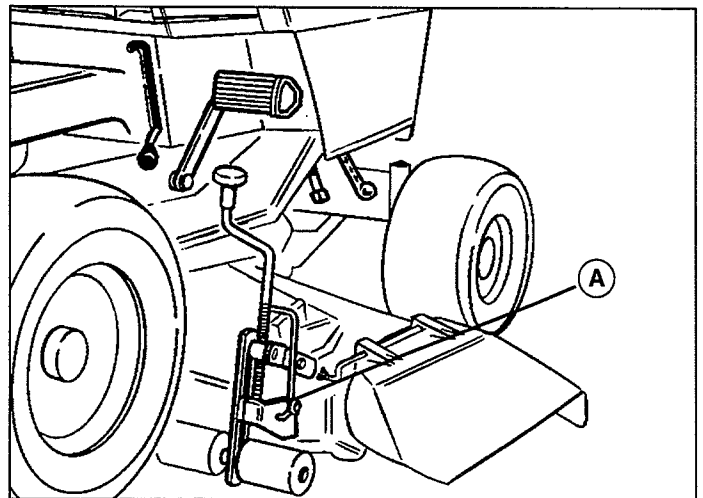

Figure 8.
15. See figure 8. Remove the mower support/height indicator from the mower deck housing. Retain the two taptite screws.